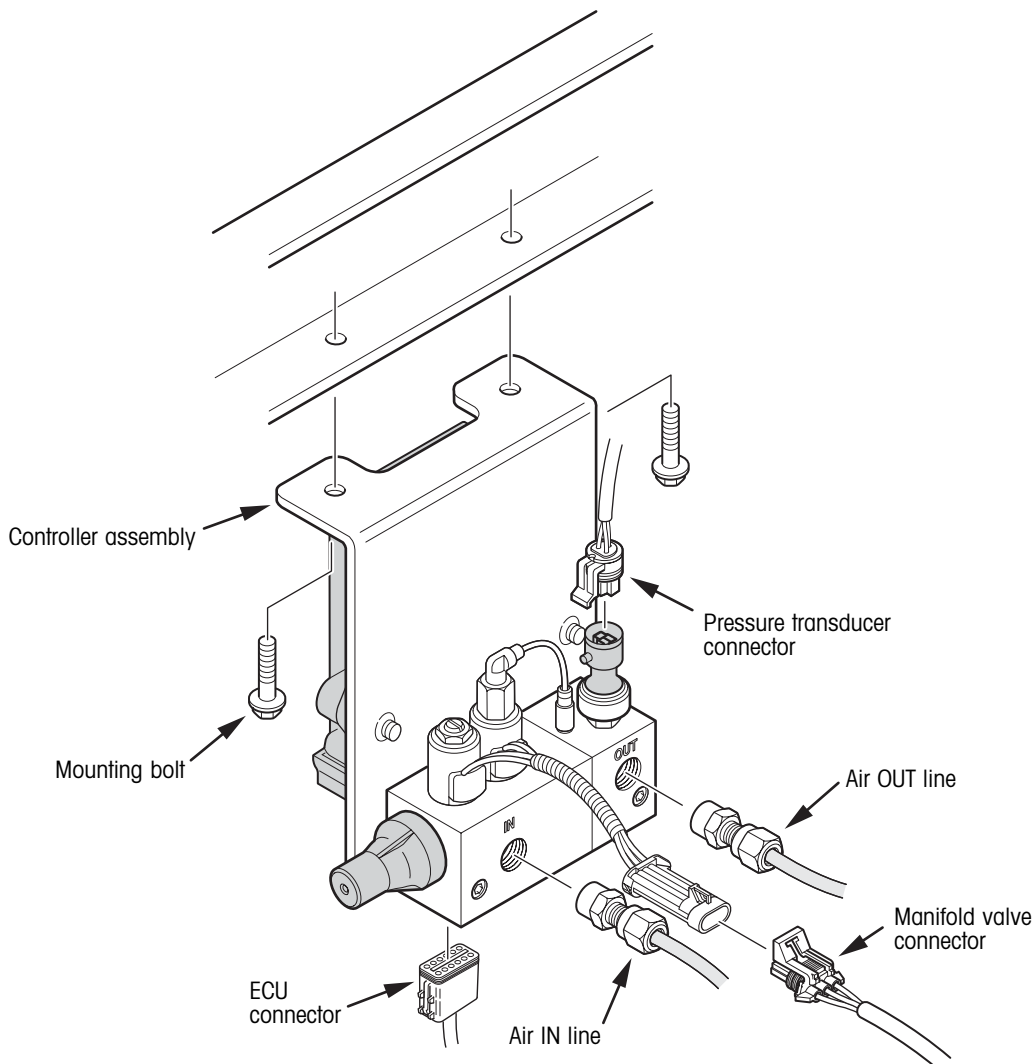

Figure 29. Controller assembly replacement
2. Disconnect the pressure transducer connector (figure 29).